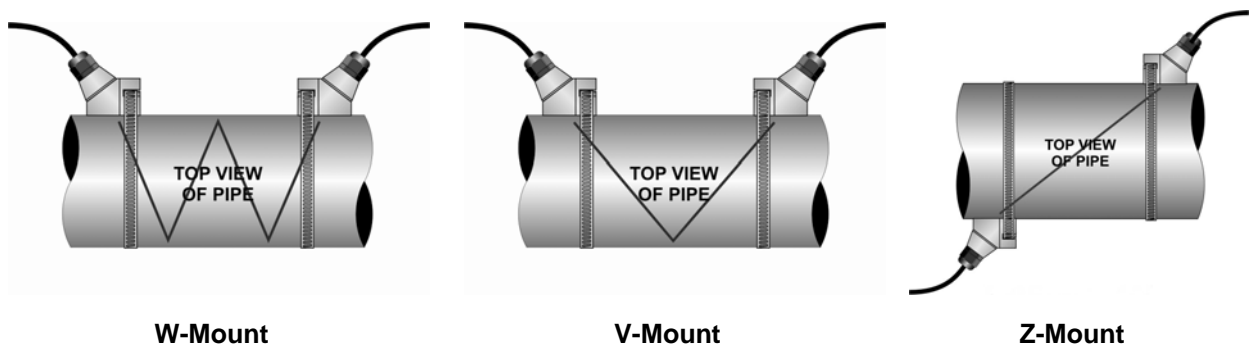

Figure 1.2
- B. Select a mounting method for the transducers based on pipe size and liquid characteristics. See **Figure 1.2**. Select **W-Mount** for plastic pipes flowing clean, non-aerated liquids in the 2-3 inch (50-75 mm) internal diameter range. Select **V-Mount** for pipes of all materials and most liquids in pipe sizes from 2-10 inches (50-250 mm). Select **Z-Mount** for pipes 10-100 inches (250-2540 mm) inches.
- C. Attach the transducers to the pipe at the location(s) determined in Step 1. Refer to Figure 1.2 for proper orientation.